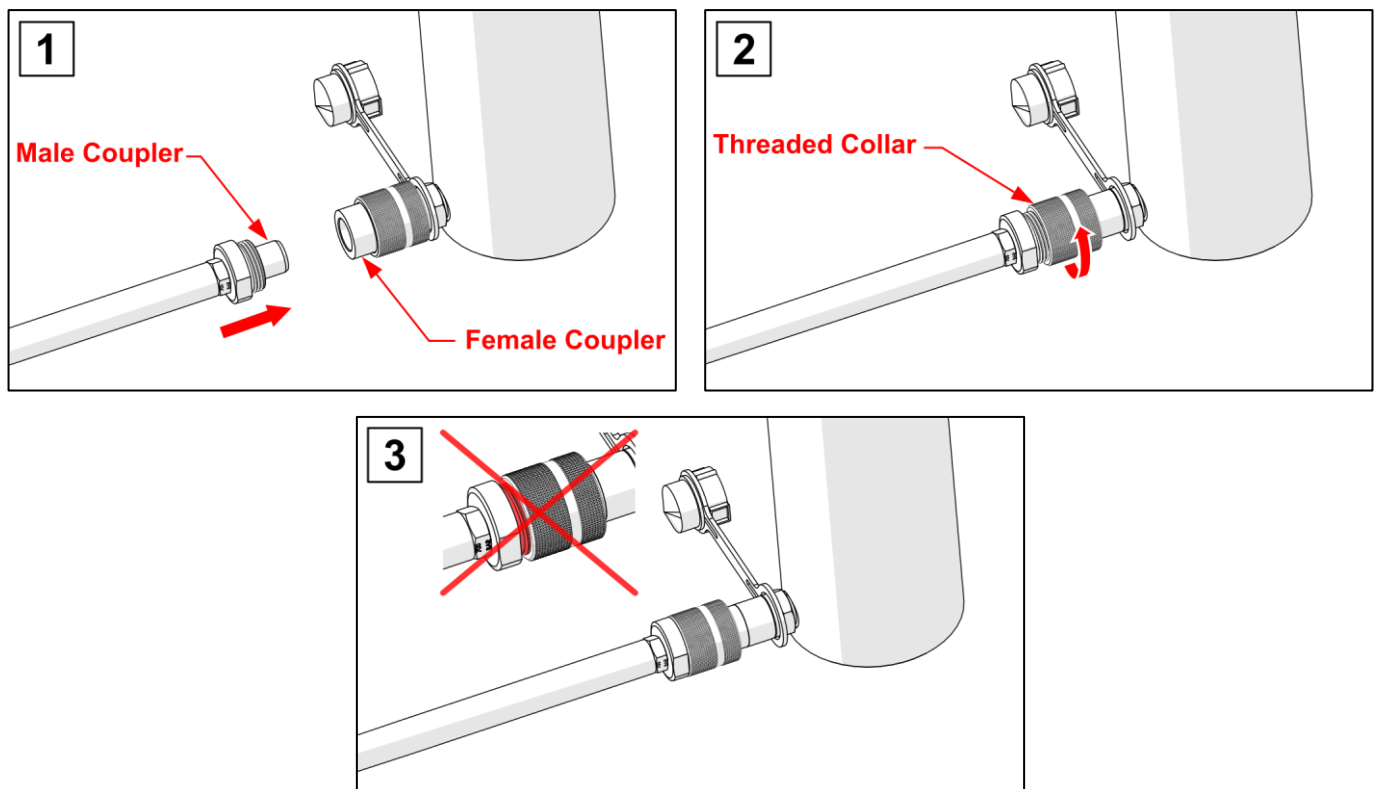

Figure 5.1: Hydraulic Connection
**IMPORTANT:** Make sure that all coupler threads are fully engaged. (See figure 5.1, panel 3)